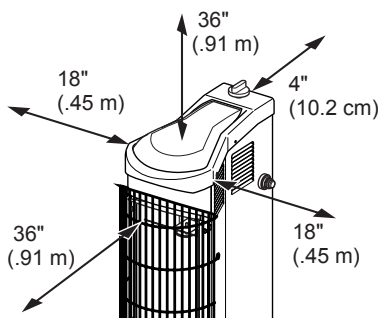

Figure 1 - Clearances from Combustibles
- Minimum heater clearances from combustibles: Back: 4 inches (10.2 cm); Sides: 18 inches (.45 m); Top and Front: 36 inches (.91 m) (see Figure 1).